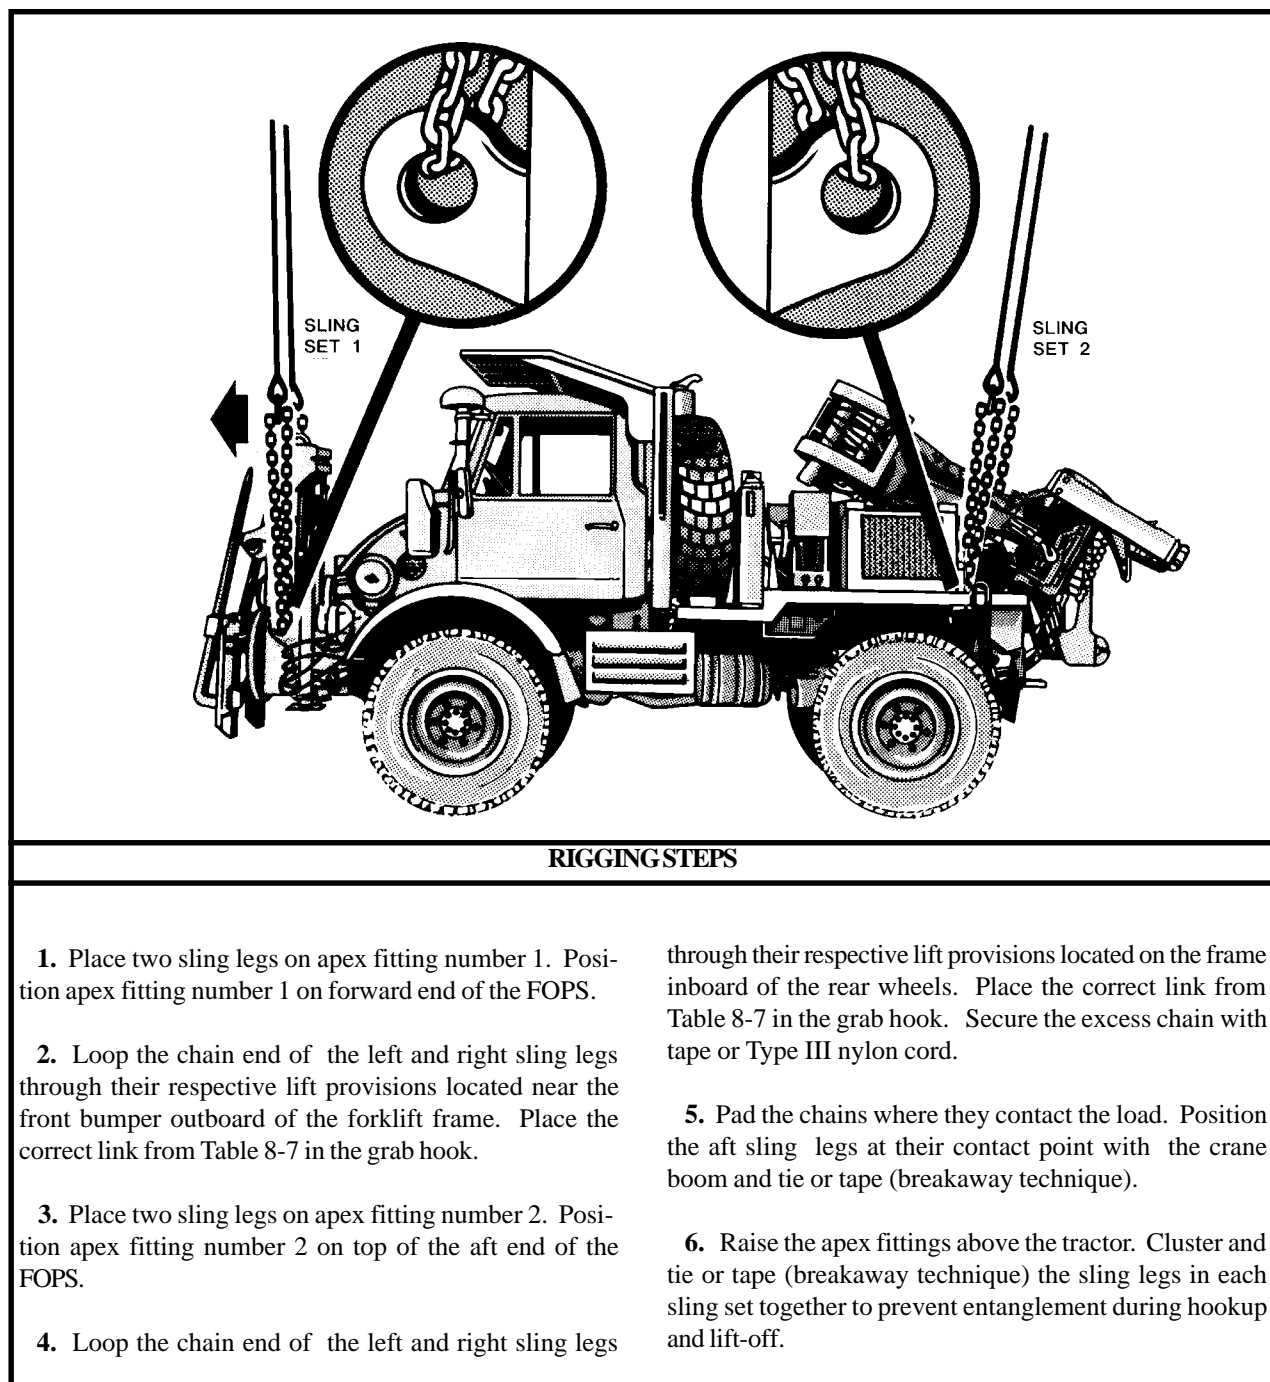

Figure 8-7. High Mobility Materiel Handler (HMMH)
(2) **Rigging.** Rig the load according to the steps in Figure 8-7.
(4) **Derigging.** Derigging is the reverse of the preparation and rigging procedures in steps d (1) and d (2).